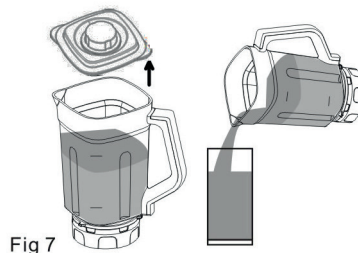

Fig 7
- Lift off the lid and serve directly from the blender jug (4). Fig 7.
- Switch off the blender once the mixing process is complete and turn the function selector (14) to OFF. Unplug the appliance. Fig 7.